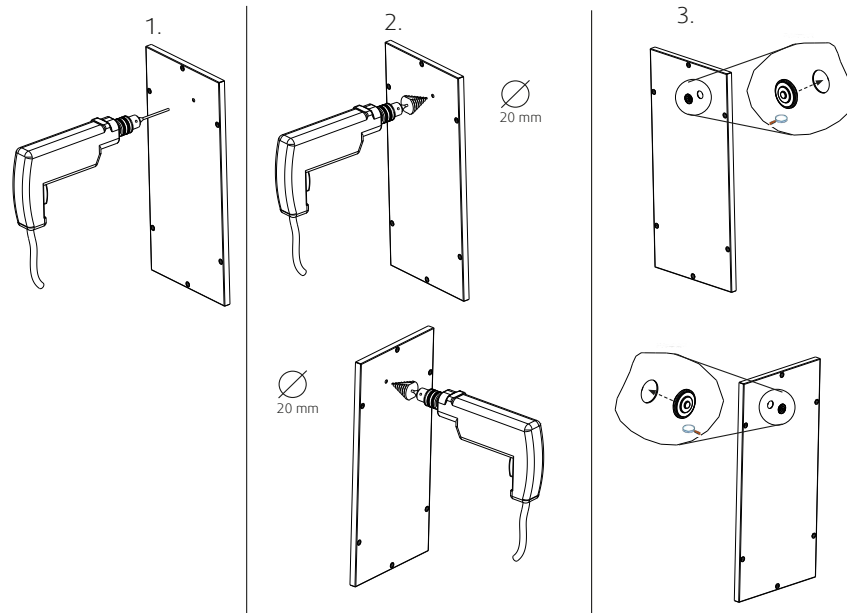

Fig. 2 Cable bushing panel
If a cable bushing through the panel is needed, please pay attention to the following notes and instructions, see Fig. 2 *Cable bushing panel*, page 20.
- ◆ Perform all work steps in the following notes and instruction Fig. 2 *Cable bushing panel*, page 20 on both sides of the double-walled panel.